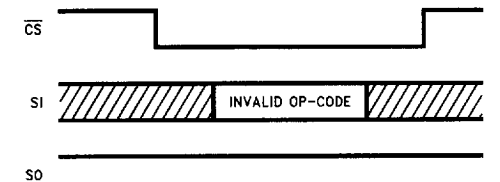

FIGURE 5
**INVALID OP-CODE:** After an invalid code is received, no data is shifted into the NM25C04, and the SO data output pin remains high impedance until a new  $\overline{CS}$  falling edge re-initializes the serial communication. See Figure 5.